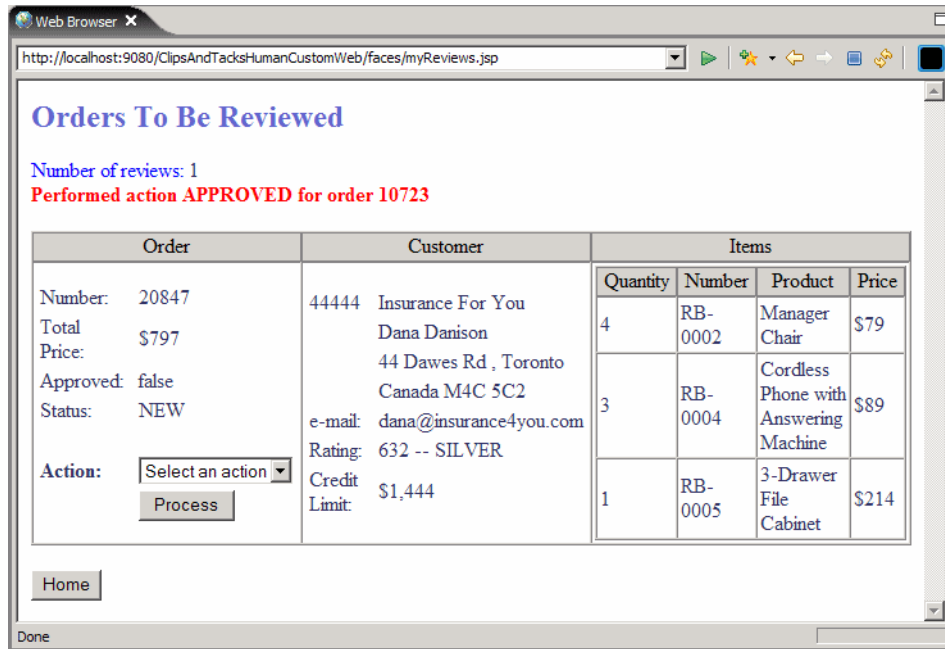

Figure 9-55 Human task application: Orders for review (2)
- ▶ The page is redisplayed with the message and the order disappears for approve and decline actions (Figure 9-55).